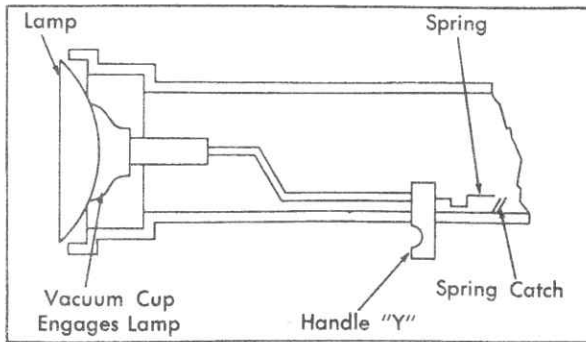

Fig. 12-7 Securing Aimers on Sealed Beams
5. Secure aimers to each headlight by pressing handle "Y" forward until vacuum cup engages headlight lens, then draw handle back until spring catches, Fig. 12-7.
4. Hold aimer and release spring catch, Fig. 12-7. Push handle toward headlight to release aimer.